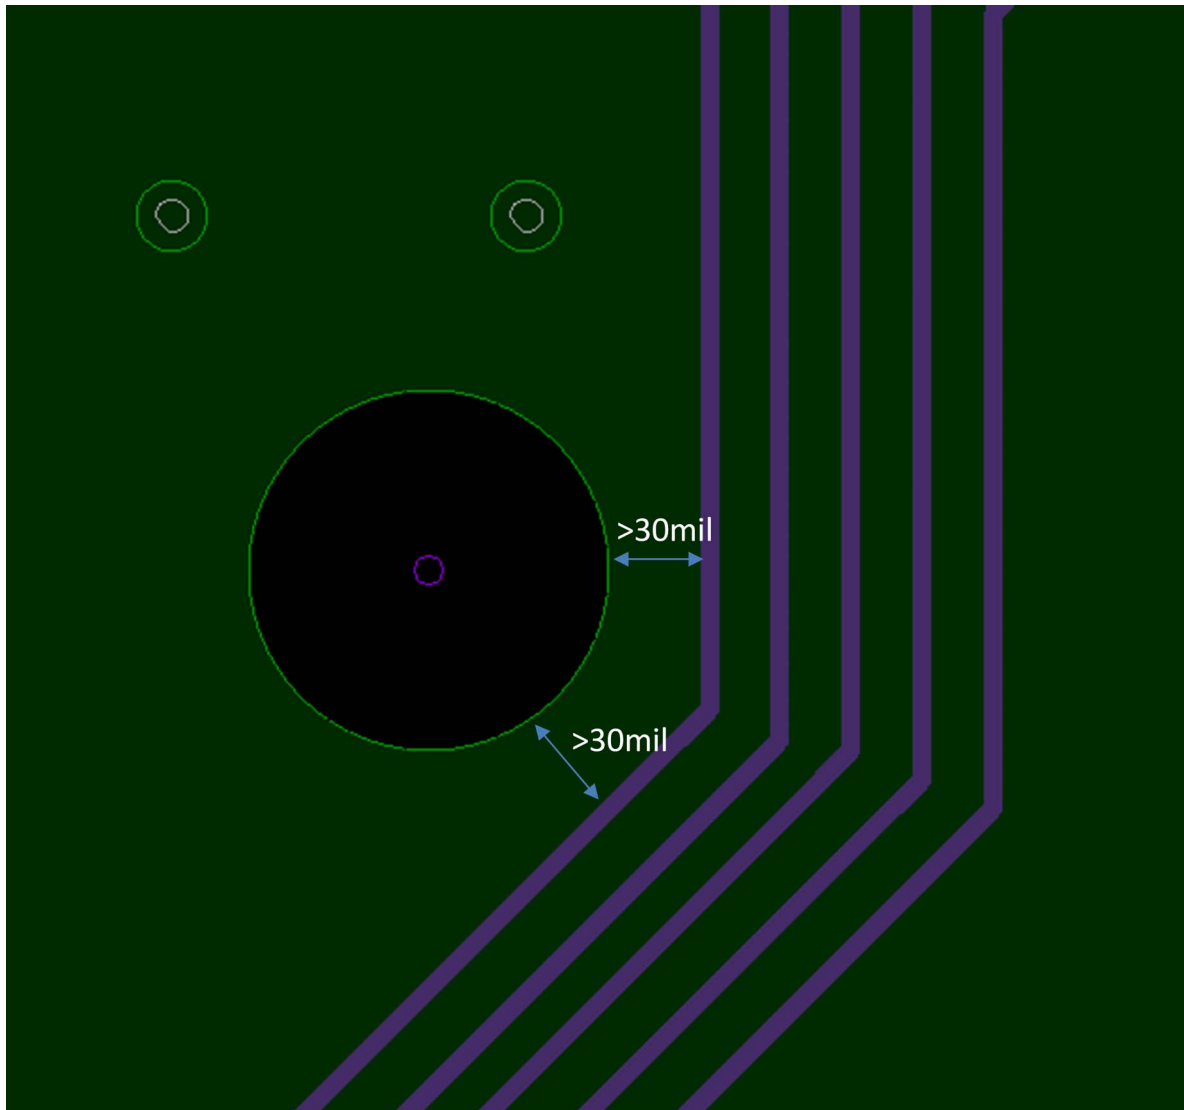

Figure 4-6: Signal Routing Over Solid Reference Plane
2. Signal lines are routed over solid reference plane. Avoid routing over void as shown in Figure 4-6.
4. Keep the routing at least 30 mils away from the reference plane and void edges with the exception of breakout region, as shown in Figure 4-6.